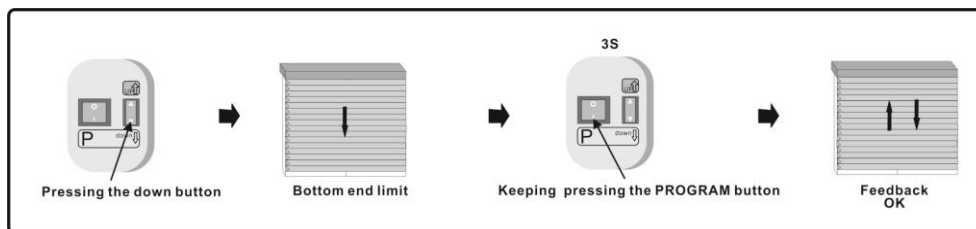

Fig.7
1.4 Move the shutter to the down limit by pressing the DOWN button, Save the bottom end limit by keeping pressing the PROGRAM button 3s UNTIL the motor joggle (one time in both direction). Refer to Fig.7